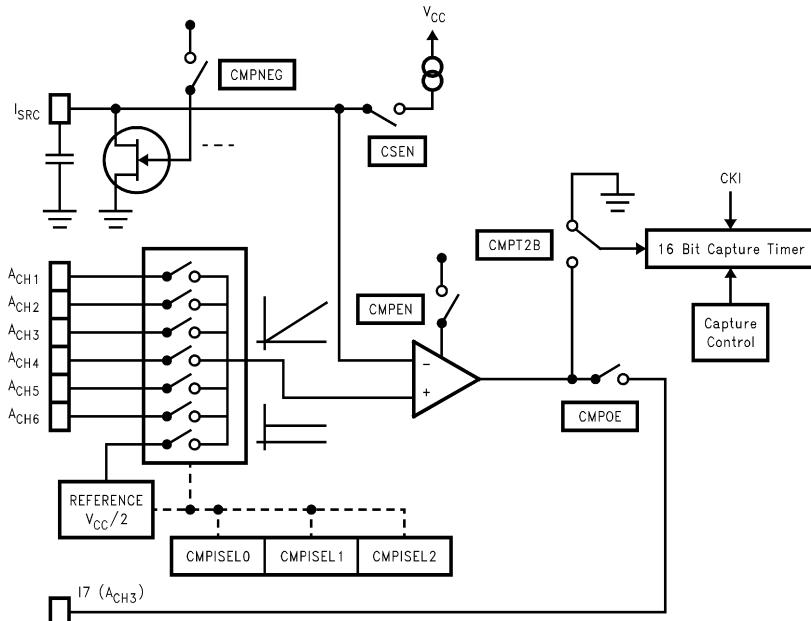

FIGURE 2. Analog Function Block and Control Bits
The principal of an integration type A/D converter is illustrated in Figure 2. One of 6 (4) analog inputs is selected and multiplexed onto the positive terminal of an on-chip comparator. With the help of an on-chip constant current source and an external capacitor a linear voltage ramp can be established and fed to the negative terminal of the comparator.
A special loop counter will be decremented while checking the capture timer pending flag. If this flag is set before the loop counter "runs out", the conversion was successful and the data can be further processed. If the loop counter runs out and the pending flag was not set, then a problem has occurred. This can happen if the level at the analog input is too low or too high. Therefore, it is recommended to establish a similar kind of precaution at this place in the source code. Please refer also to *Figures 2, 3* for better understanding of the A/D initialization.